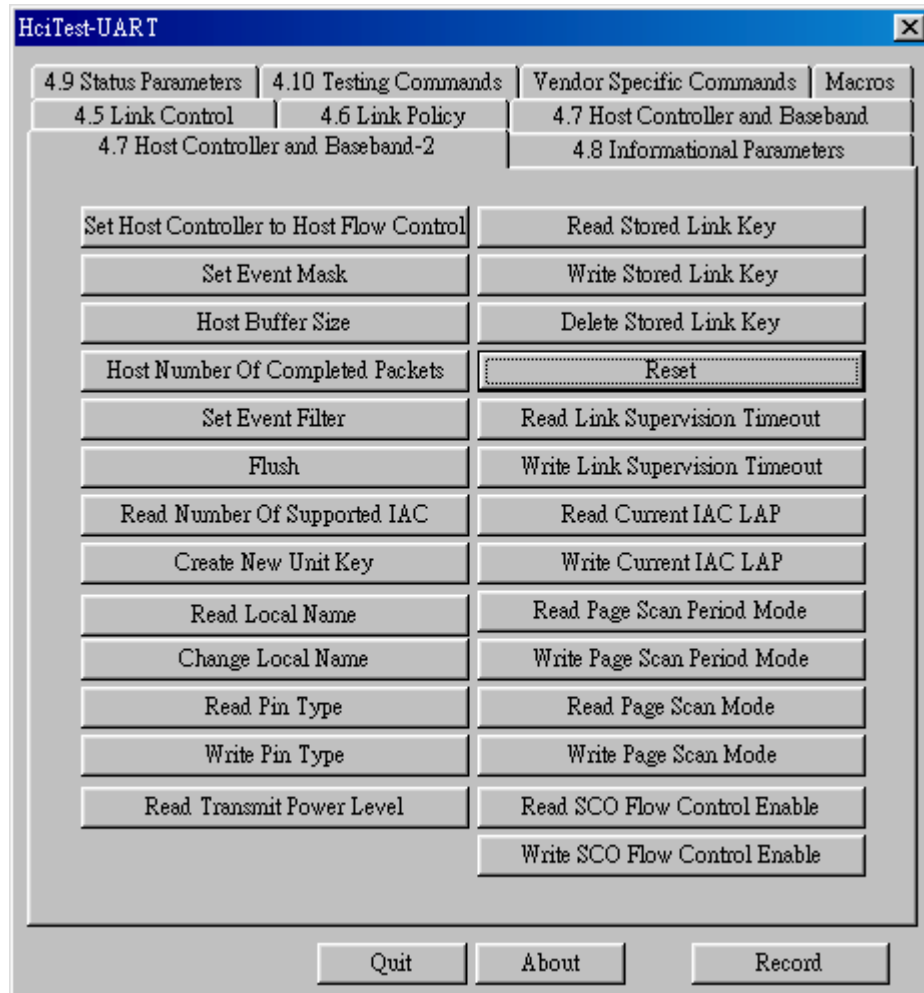
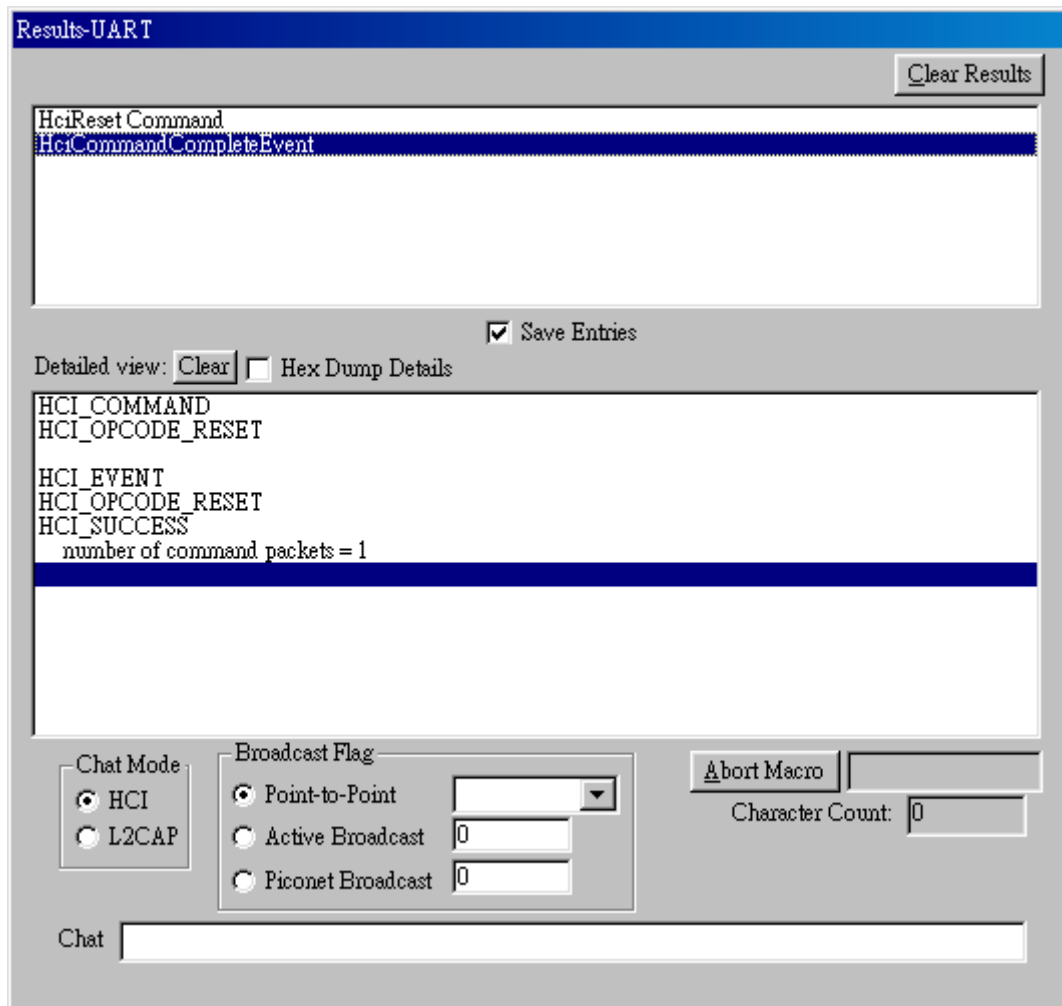

Figure 10: Click on Reset
Figure 11: Show test result
- On both computers, select “4.7 Host Controller and Baseband-2” box, then click on the **Reset** button. (as Figure 10), The user can see result from the “**Result**” Window (as Figure 11)